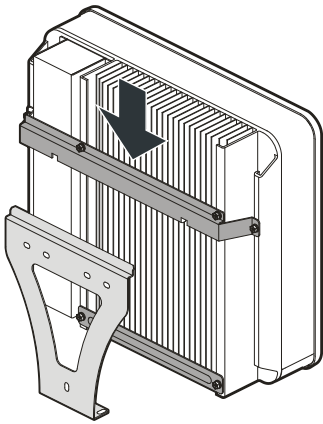

Figure3-11 Hang the inverter to installation holder
- Step 5 Uplift the inverter and hang the inverter to the installation holder, as shown in Figure3-11.